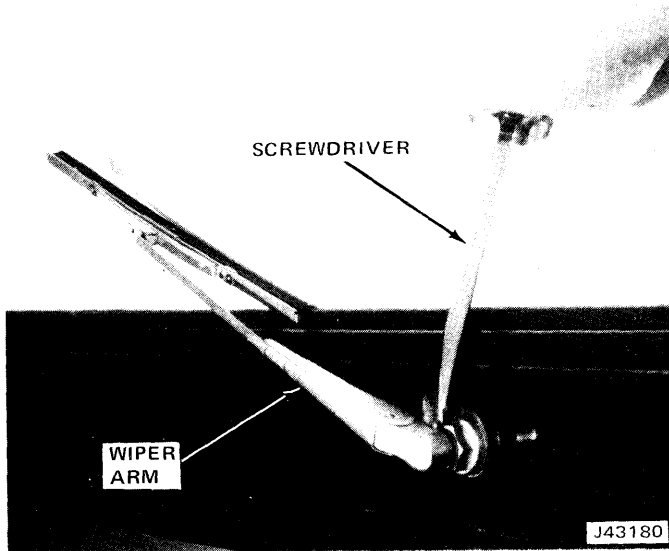

Fig. 17-10 Wiper Arm Removal
(1) To remove the windshield wiper arms from the pivot body shaft, first mark the pivot shaft and arm so that the wiper arm can be installed in the same position, and then pry up carefully on the wiper arm as shown in figure 17-10.